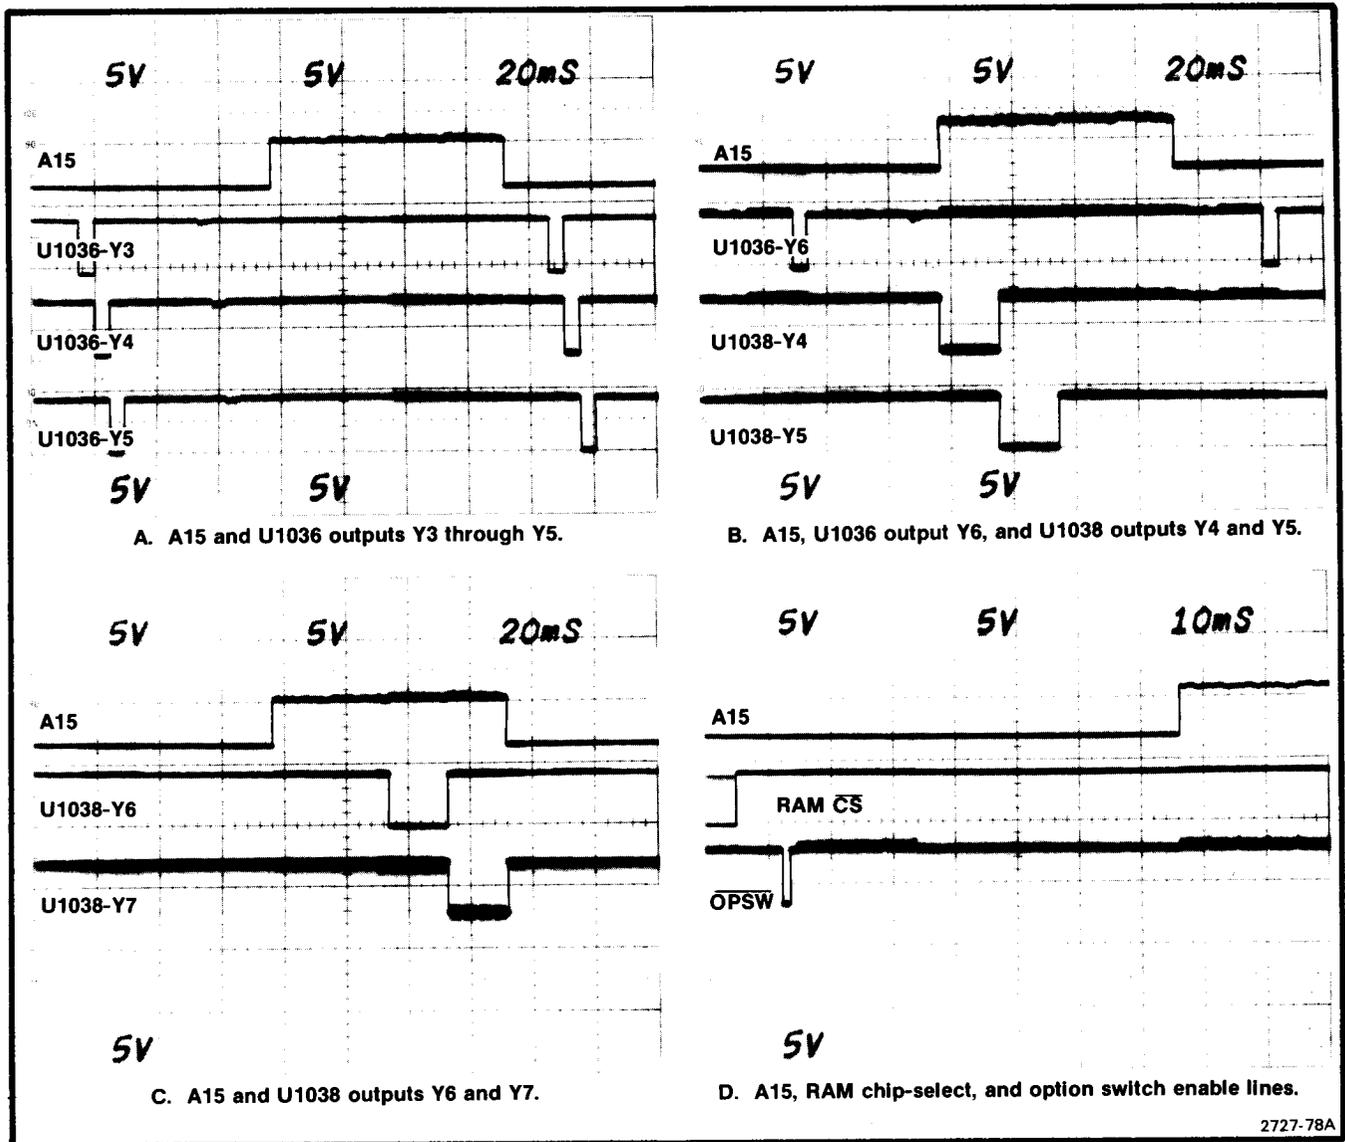

Fig. 4-22. A15 and Memory board address decoder outputs.
**Memory Address Decoders.** Address decoders U1036 and U1038 on the Memory board set their outputs low to access blocks of ROM addresses. These outputs are shown in relation to A15 in Fig. 4-22. The RAM (U2035 and U2032) chip-select lines and option switch register (U1033) enable line are also decoded on the Memory board as shown in part d of Fig. 4-22. The narrow pulses which may be evident during the time each output is asserted can be ignored for the reason noted above under Processor Address Decoders.